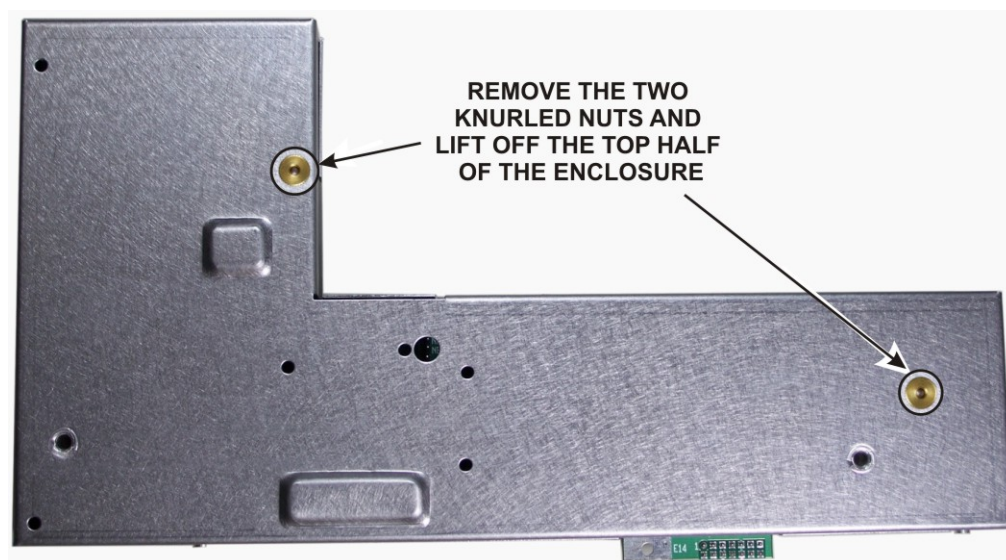
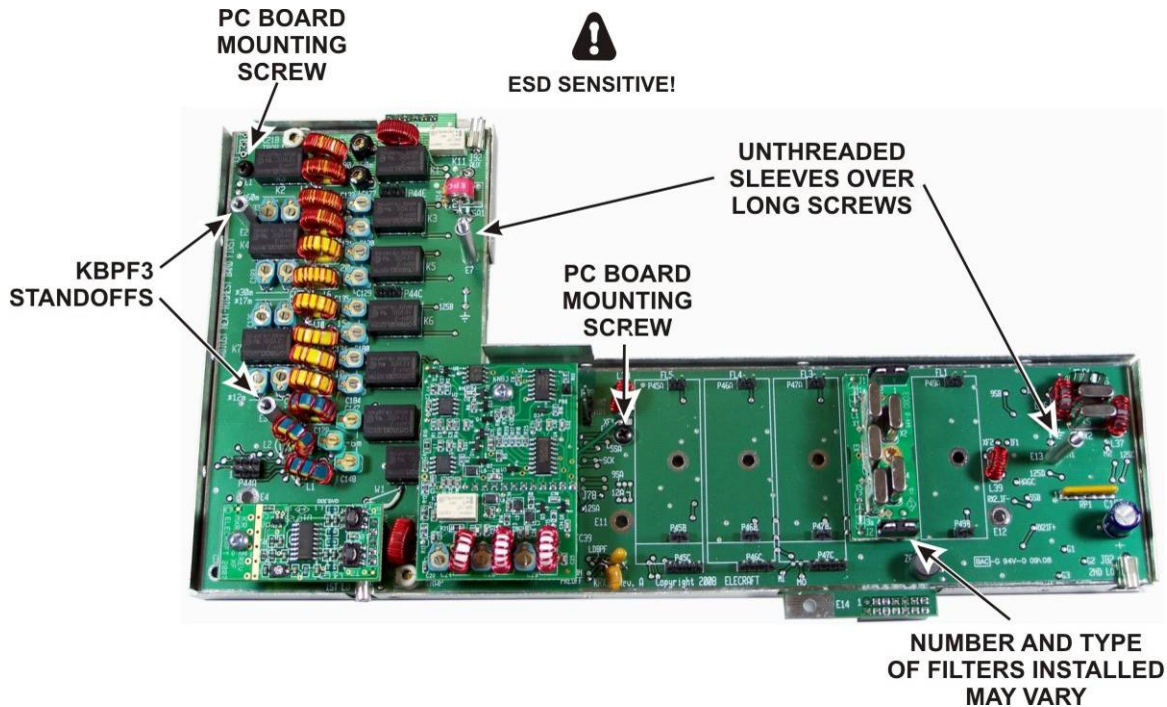

Figure 5. Removing the Top of the Sub Receiver Enclosure.
Figure 6. Sub Receiver PC Board
- ☐ Unscrew the two knurled nuts shown in Figure 5 and lift the top half of the enclosure off. There are two unthreaded sleeves over the long screws above the circuit board that will slide off easily (see Figure 6). Be sure you don't lose them.
☐ Check to see if the standoffs are already mounted on the sub receiver at the locations shown in Figure 6. if so, go directly to *Installing the KBPF3A on the Sub Receiver Board* on page 11 Otherwise continue with *Installing Standoffs on the Sub Receiver Board* below.
- ☐ Remove the two unthreaded sleeves over the long screws shown in Figure 6, then remove the two PC board mounting screws. Each screw has a split lock washer under it.
- ☐ Install the 1/2" (13 mm) standoffs at locations E1 and E3 on the sub receiver pc board (see Figure 6). Use the hardware exactly as shown in Figure 7. The lock washer between the standoff and the pc board is very important to establish the correct height above the board.
☐ Install the KBPF3A, making sure the three connectors on the bottom of the board mate with P44A, P44C and P44E on the sub receiver board. The screw holes will line up with the standoffs when the board is positioned correctly (see Figure 6). Secure the KBPF3A board with two 4-40 1/4" (6.4 mm) pan head screws and #4 split lock washers as shown.
- ☐ If you removed them, place the 7/8" (22 mm) unthreaded sleeves over the long screws so they rest against the top of the circuit board (see Figure 6).